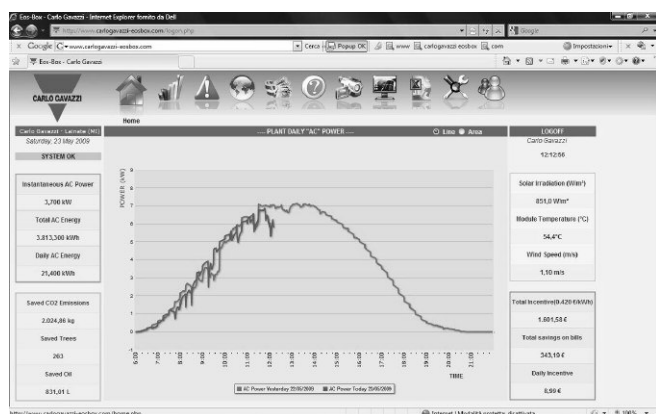

Fig. 1
- 1 On the top. 11 icons are available to have direct access to different functionalities like (Fig.1):